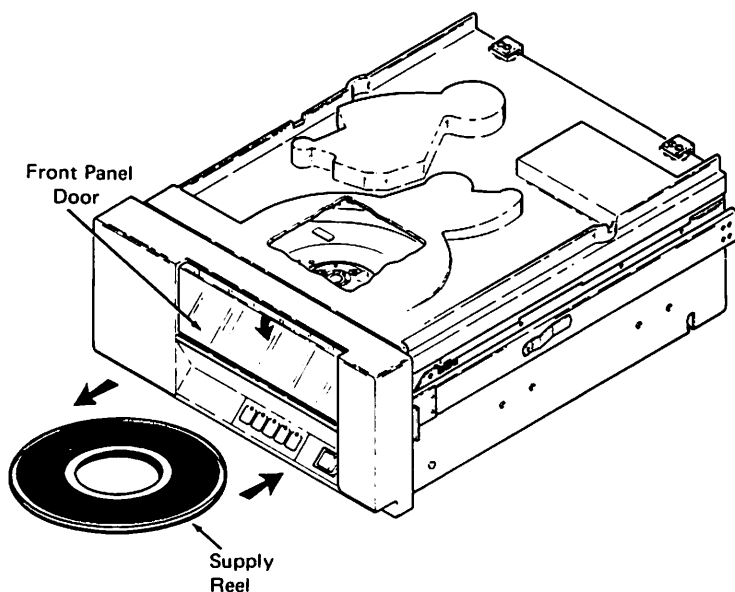

Figure 9 Loading and unloading the tape
The tape unit in the NCR 6099 Subsystem can automatically load magnetic tapes. The magnetic tape can be mounted on a standard reel; that is, the tape reel does not need a special loading jacket to be used with this tape drive (see Figure 9). For reliable automatic tape loading, the end of the tape should be cut so that it is rounded. The end
3. Open the front panel door by pressing down on the top (center) of the door (refer to Figure 9).